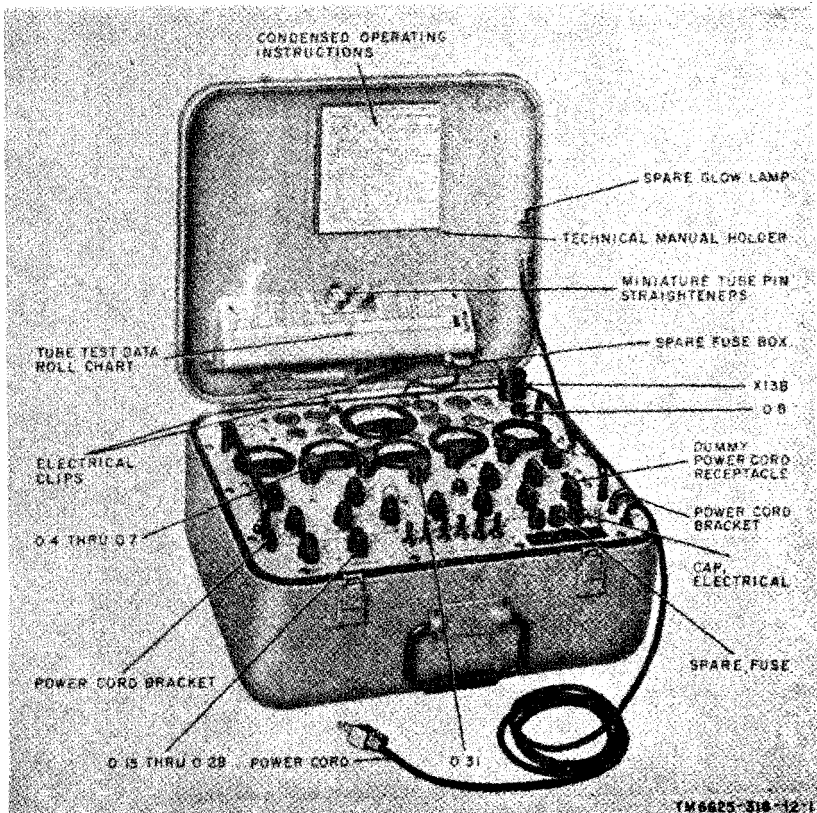

Figure 1. Test Set, Electron Tube TV-2(*)/U, less running spares.
a. This manual describes Test Sets, Electron Tube TV-2/U, TV-2A/U, and TV-2B/U (fig. 1) and covers operation and the operator's and organizational maintenance. It includes instructions for operation under usual conditions, for cleaning and inspection of the equipment, and for replacement of parts available to first and second echelon maintenance.
Test Set, Electron Tube TV-2(*)/U (fig. 1) is a portable tube tester of the dynamic mutual conductance type. It is used to test and to measure performance capabilities and to determine rejection limit for electron tubes used in receivers, low-powered transmitters, and other electronic equipment. The following tests can be made with the tube tester.
Note. Running spares listed above are stored in designated positions on the inside cover and chassis (figs. 1 and 8) of the tube tester.
(fig. 1)